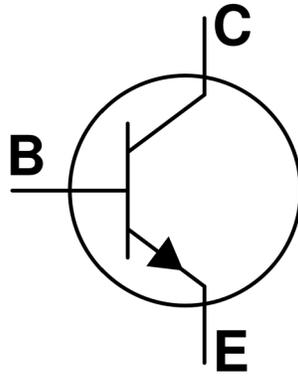

Figure 2: BJT NPN Transistor Diagram
The NPN transistor has three terminals called the Collector (C), the Base (B) and the Emitter (E). These are shown in detail in Figure 2. Your instructor will show you in the lab how to recognize which is C and which E; B is the middle one. A simple way of describing an NPN transistor would be to imagine two diodes which share a common anode region. The internal circuitry and modeling of the NPN transistor will be taught in detail in a later course. For this experiment, the NPN transistor shall be used as a switch in order to turn the IR LED on and off.